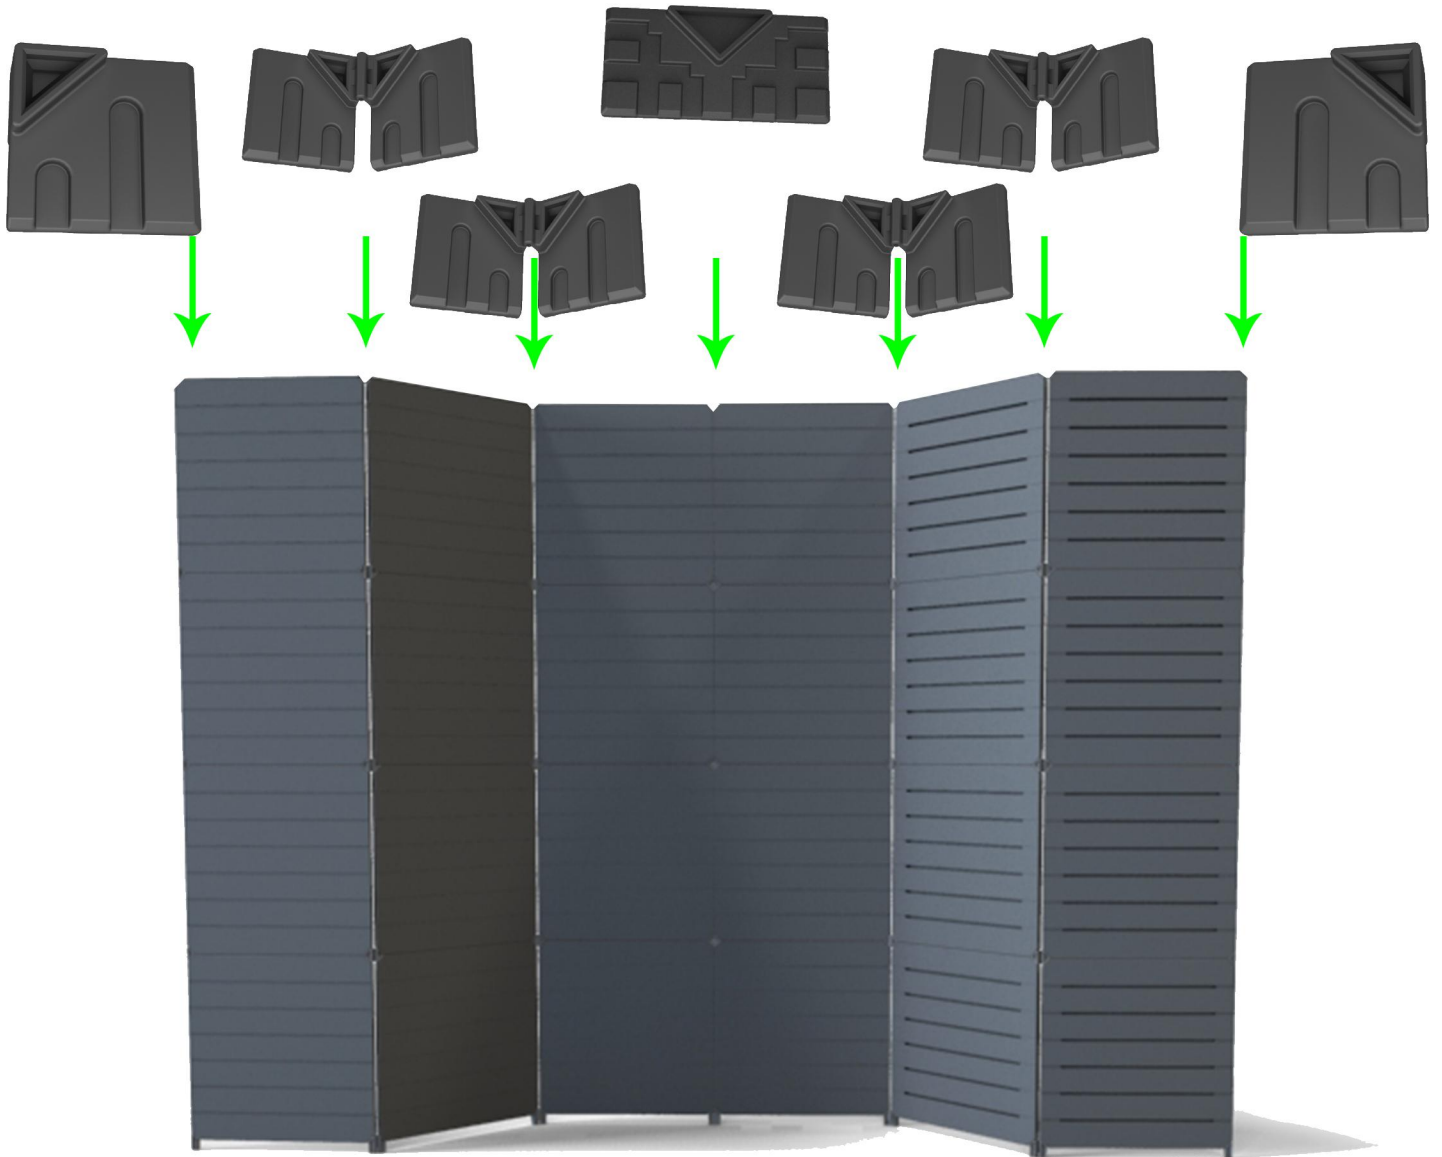

Figure 4
- **Repeat this process until the second row is complete. (figure 4)**